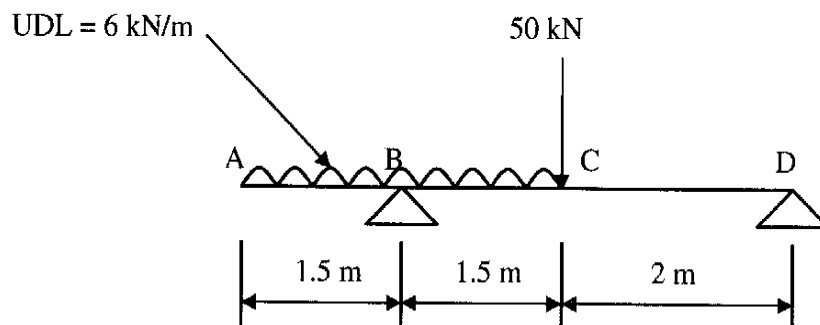

Fig Q2
2. A solid rectangular section beam is loaded as shown in Fig Q2. It is simply supported at points B and D and carries a uniformly distributed load of 6 kN/m over a 3 m length from A to C. The breadth of the beam is 80 mm and the maximum stress due to bending is not to exceed 140 MN/m².